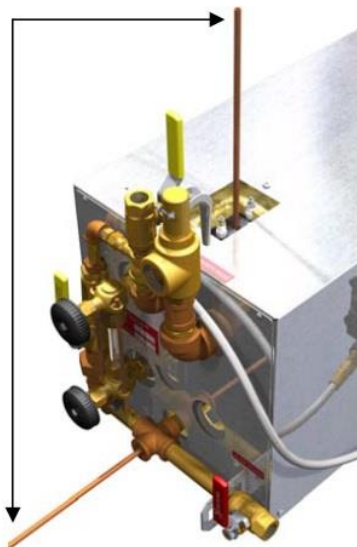

Figure 2
Insert two (2) 1/4in OD copper tubes or any other soft rods through the Long Probe opening and through the boiler blow off opening into the pressure vessel to remove sediments from the bottom of the probe baffle. See Figure 2